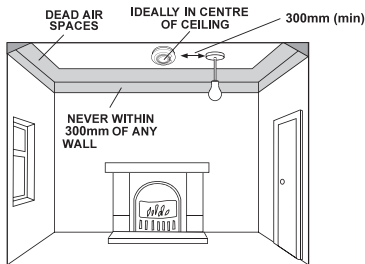

Fig.3
- At least 300mm away from walls (see Figure 3)